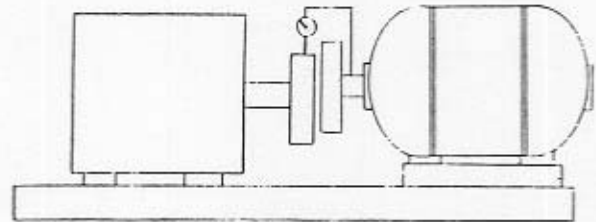

Fig. 4-4 Rim Top to Bottom
1. Set the indicator to zero in the 12 o'clock position. (Fig. 4-4).